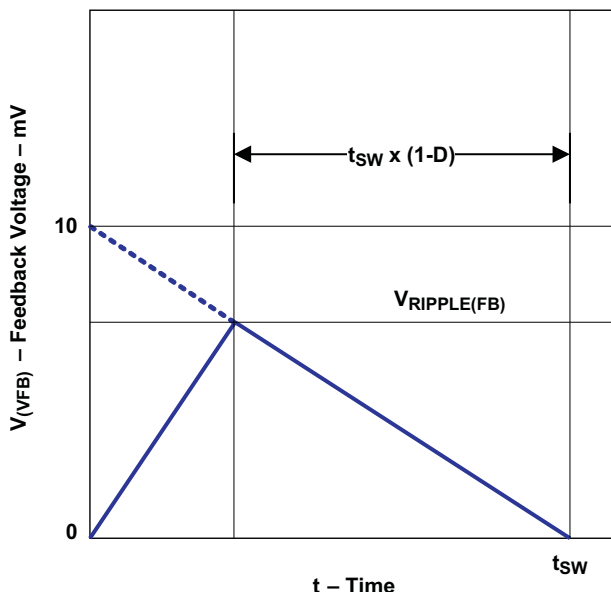

Figure 23. Ripple Voltage Down Slope
- the output ripple down slope rate is 10 mV/tsw in terms of VFB terminal voltage as shown in Figure 23